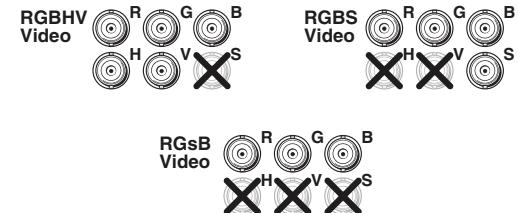

Figure 2-12 — Video output wiring pin assignments
3. Use cables with BNC connectors to connect the interface to a projector or other display device(s) (figure 2-12).